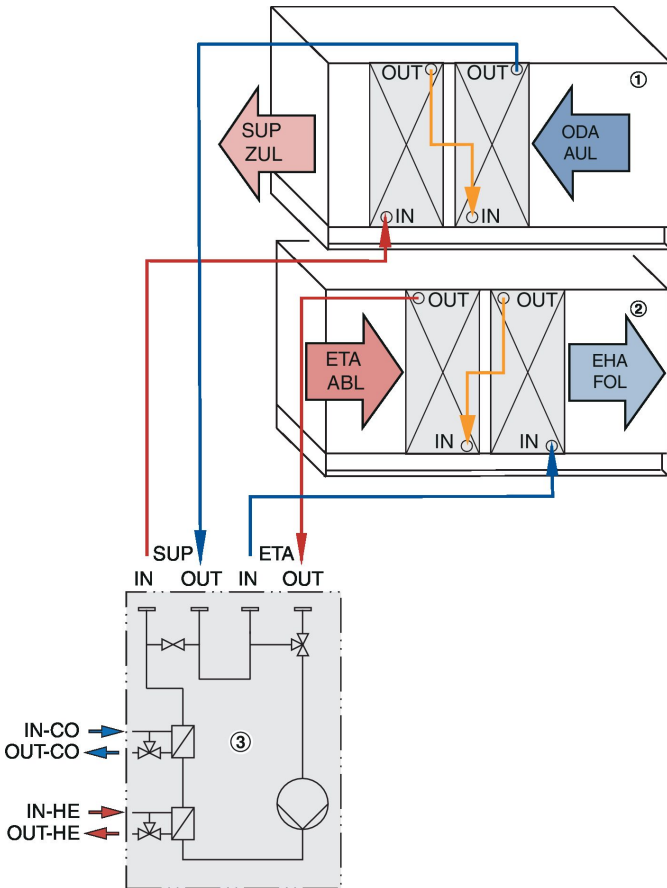

Fig. 32: Hydraulic system connection (example)
- ① Supply air unit
- ② Extract air unit
- ③ hydraulic unit
3. ▶ Connect the heat exchanger with the hydraulic unit (Fig. 32).
4. ▶ Run-around coil systems with external feeding: Make the required connections (Fig. 32).